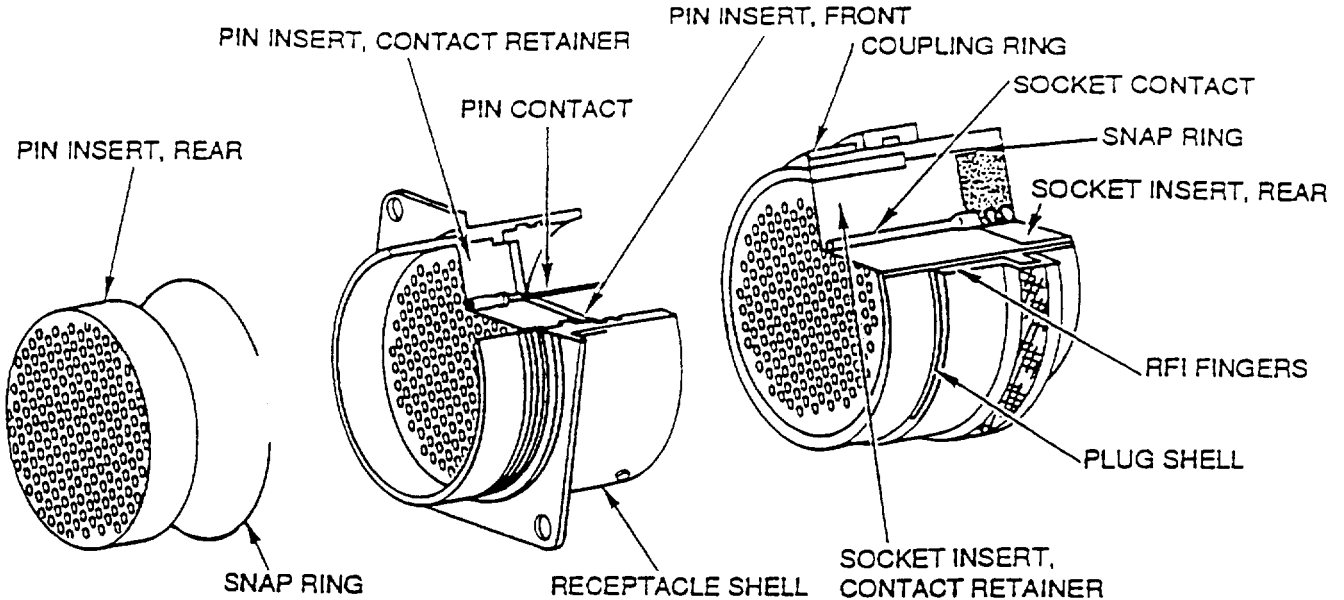

Figure 13. Connector Insert and Design Features
21. **INSERTS.** The entire insert is essentially one integral part designed to provide suitable support around the wires and insulate the contacts from the shell as well as from other contacts. These inserts are usually constructed of a dielectric material such as rubber or plastic compositions, are nonremovable and are secured to prevent rotation. The design is such that the contacts are able to be inserted and removed to facilitate installation and maintenance, except when using hermetic receptacle in which the contacts are fixed in the insert. A connector contains either a pin insert or socket insert (Figure 13).
35. **CONTACTS.** Contacts are the pins or sockets within the insert and may be either fixed or removable, solder or crimp, The contacts terminate the wire within the connector (Figure 13 and Figure 15).